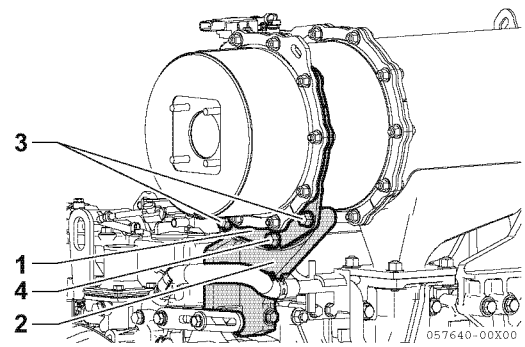
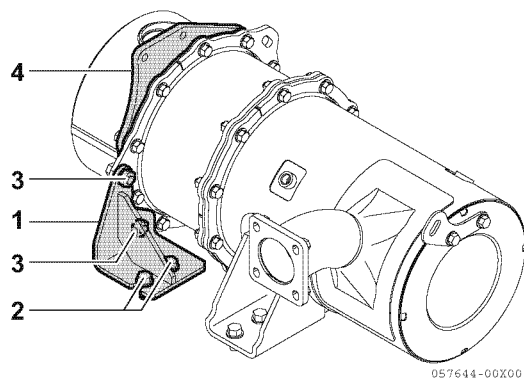

Figure 13-18
Figure 13-20
3. Removal of the soot filter (SF) fixing bolts
- Remove the M10 flange bolts (2 pcs.) (Figure 13-18, (3)) and the M10 flange nut (1 pc.) (Figure 13-18, (4)) that fix the SF stiffener (Figure 13-18, (1)) and DPF stay (Figure 13-18, (2)). Depending on the model, the configuration and fixing method of the engine-side stay may differ.
- Temporarily fasten the DPF stay (**Figure 13-20, (1)**) on the silencer (or outlet flange) side to the flywheel housing using M10 flange bolts (2 pcs.) (**Figure 13-20, (2)**).
- Before fully tightening, slightly loosen the M10 flange bolts (2 pcs.) (**Figure 13-18, (3)**) that affix the stiffener (**Figure 13-18, (4)**) and the DPF stay, and after fully tightening the DPF stay and the flywheel housing bolts, (**Figure 13-20, (2)**), fully tighten the stiffener bolts (**Figure 13-20, (3)**).
- Reattach the sensor bracket that had been moved to the engine side to the outlet flange side stiffener (**Figure 13-20, (4)**). (M8 flange bolts (2 pcs.))